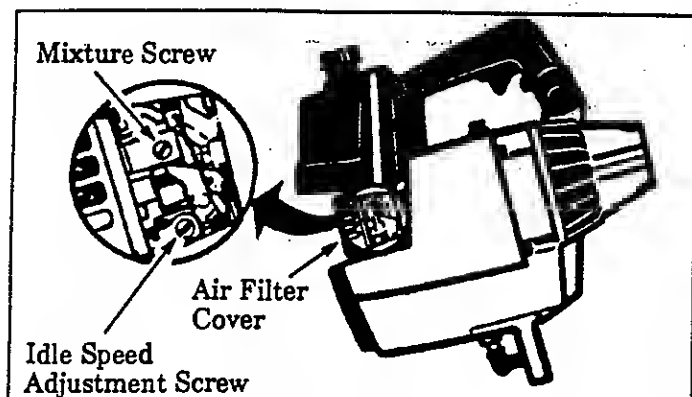

Figure 23
- a. Turn the Mixture Screw (Figure 23) clockwise until it stops. *Do not turn the screw until it is tight as damage to the needle seat can occur.*
- b. If the engine does not accelerate smoothly, turn the Mixture Screw (Figure 23) counterclockwise  a small amount (no more than the width of the slot in the adjusting screw).
3. Turn Mixture Screw (Figure 23) very slowly clockwise  until engine speed is reduced.